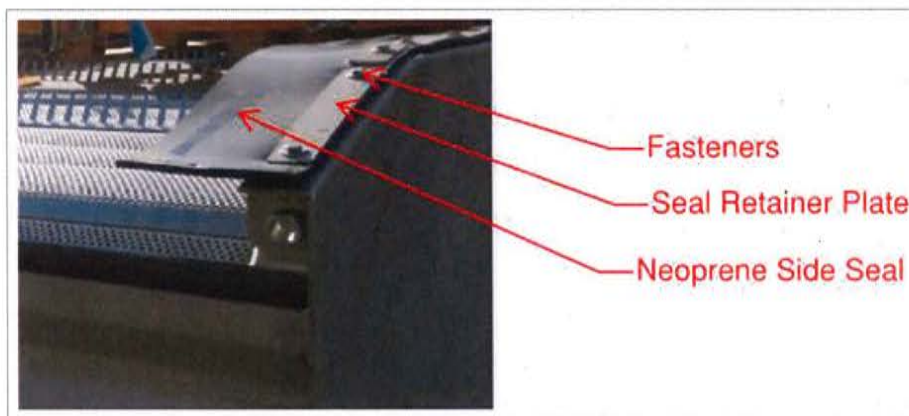

Figure 2-1: Side seals facing inward for shipping
1. The FSM FRS 3 Perforated Screen is shipped with the side seals facing in (see Figure 2-1). Before installing the screen in the channel, remove the fasteners, seal retainer plates and neoprene side seals (see Figure 2-1).